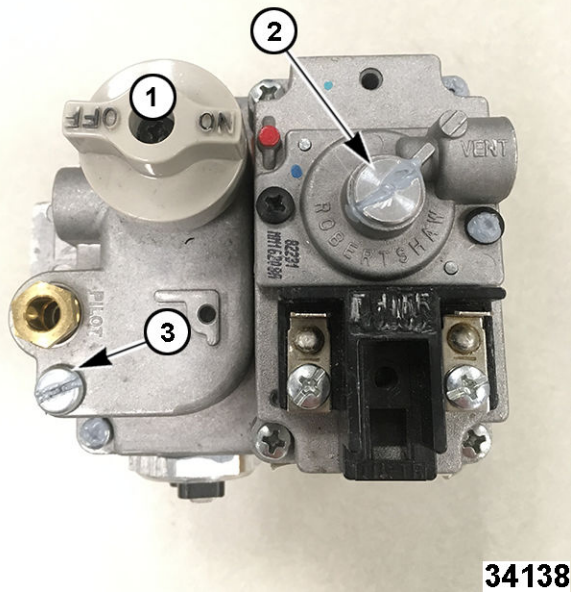

Fig. 132
1. Open the door(s) and turn the gas combination valve off (1, Fig. 132).
5. Remove adjustment screw cover (2, Fig. 132) to access pressure adjustment screw.
- A. Remove gas valve pilot adjustment cover (3, Fig. 132) to expose adjustment screw.